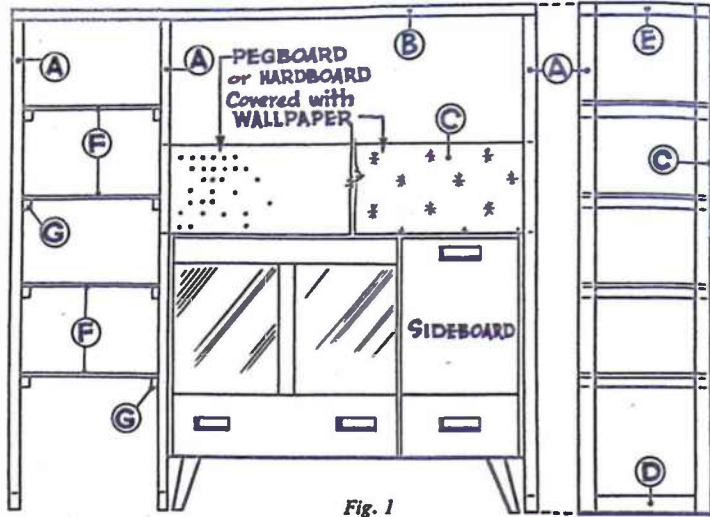

Fig. 1
The tall partition is made up as detailed in Fig. 1, securing the shelf supports (G) to the uprights (A) before placing the top rails (B) in position. The lower rails (D) are drilled and secured to the floor by screws. Alternatively these screws may be omitted and the hardboard back (C) extended down and screwed to the back of the sideboard.